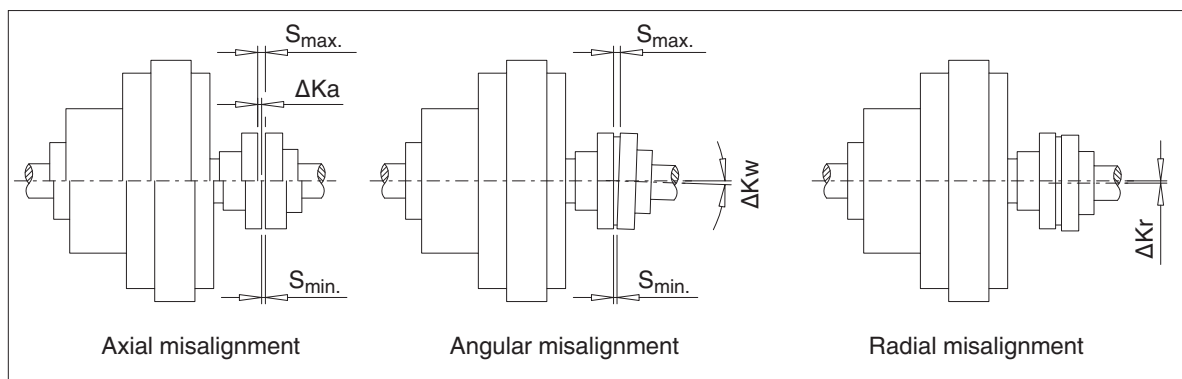

Fig. 9: Possible misalignments
Axial misalignment ΔK_a (Fig. 9) of the coupling parts relative to one another is possible within the "permissible deviation" for dimension "S" (see order-related title page).
The angular misalignment ΔK_w (Fig. 9) can usefully be measured as the difference in the gap dimension ($\Delta S = S_{max.} - S_{min.}$). For the permissible values for the difference in the gap dimension, refer to item 6.5.4.
For the permissible radial misalignment $\Delta K_{r \text{ perm.}}$ (Fig. 9) – depending on the operating speed –, refer to item 6.5.4.